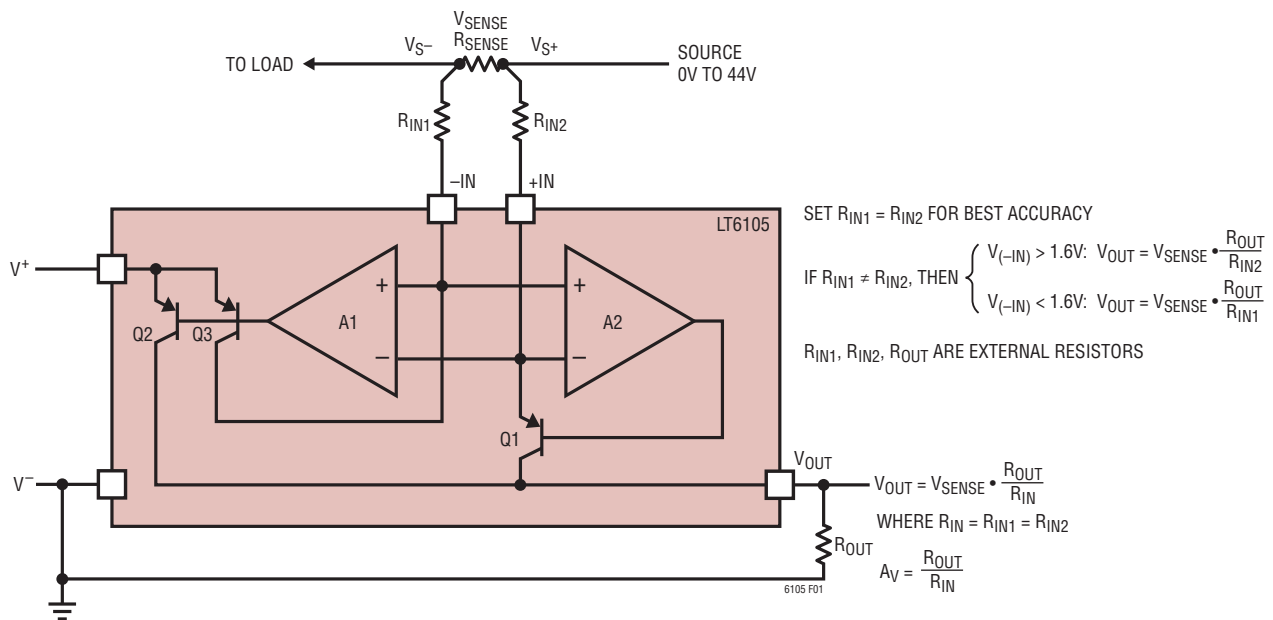

Figure 1. Simplified Block Diagram
**+IN (Pin 6/Pin 8):** Positive Sense Input Terminal. Connecting a source to  $V_{S^+}$  and a load to  $V_{S^-}$  will allow the LT6105 to monitor the current through  $R_{SENSE}$ , refer to Figure 1. Connect  $+IN$  to an external gain-setting resistor  $R_{IN2}$  to set the gain.  $+IN$  remains functional for voltages up to 44V, referred to  $V^-$ .
The LT6105 extended input range current sense amplifier (see Figure 1) provides accurate unidirectional monitoring of current through a user-selected sense resistor. The LT6105 is fully specified over a  $-0.3\text{V}$  to  $44\text{V}$  input common mode range. A high PSRR  $V^+$  supply (2.85V to 36V) powers the current sense amplifier. The input sense voltage is level shifted from the sensed power supply to the ground reference and amplified by a user-selected gain to the output. The output voltage is directly proportional to the current flowing through the sense resistor.
### THEORY OF OPERATION (Refer to Figure 1)
The crossover voltage, the voltage where the  $g_m$  of one input stage is transferred to the other, occurs at 1.6V above  $V^-$ . Near this region, one input stage is shutting off while the other is turning on. Increases in temperature will cause the crossover voltage to decrease. For input operation between 1.6V and 44V, the common base PNPs are active (Q2, Q3 of Figure 1). The typical current through each input at  $V_{SENSE} = 0V$  is  $15\mu A$ . The input offset voltage is  $300\mu V$  maximum at room temperature. For input operation between 1.6V to 0V, the other PNP is active. The current out of the inputs at  $V_{SENSE} = 0V$  is  $100nA$ . The input offset voltage is untrimmed and is typically  $300\mu V$ .
The LT6105 is designed to exhibit fast response to inputs for the purpose of circuit protection or signal transmission. This response time will be affected by the external circuit in two ways—delay and speed. If the output current is very low and an input transient occurs, there may be an increased delay before the output voltage begins changing. This can be improved by increasing the minimum output current, either by increasing  $R_{SENSE}$  or decreasing  $R_{IN}$ . The effect of increased output current is illustrated in the step response curves in the Typical Performance Characteristics section of this data sheet. Note that the curves are labeled with respect to the initial output currents. The speed is also affected by the external circuit. In this case, if the input changes very quickly, the internal amplifier will slew the base of the internal output PNP (Figure 1) in order to maintain the internal loop. This results in current flowing through  $R_{IN}$  and the internal PNP. This current slew rate will be determined by the amplifier and PNP characteristics as well as the input resistor,  $R_{IN}$ . See the Slew Rate vs  $R_{IN}$  curve in the Typical Performance Characteristics section. Using a smaller  $R_{IN}$  will allow the output current to increase more quickly, decreasing the response time at the output. This will also have the effect of increasing the maximum output current.